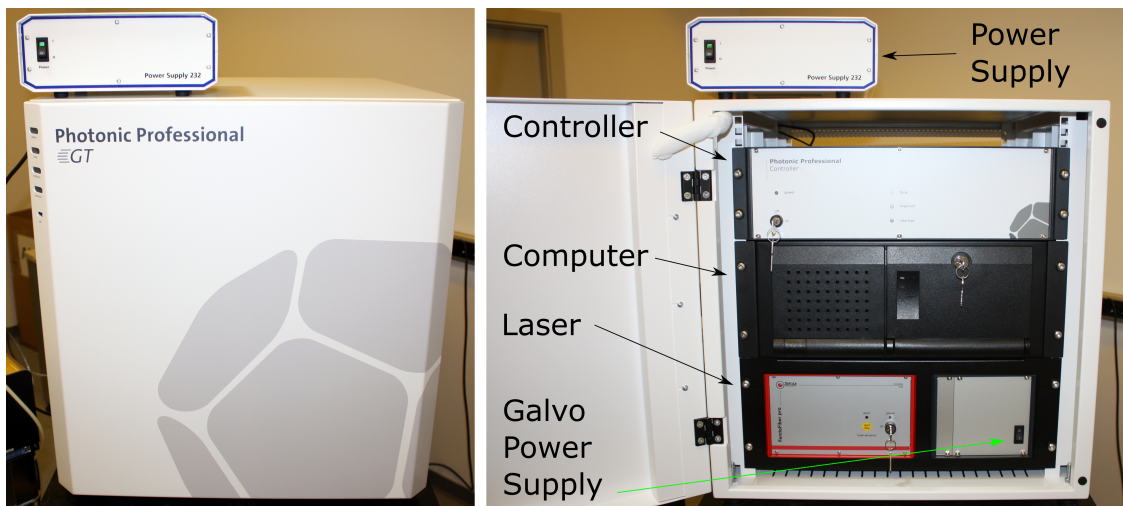

Figure 2.10.: Closed (left) and open (right) electronic rack of the Photonic Professional (GT).
Switch on the components in the following order in order to power-up the Photonic Professional (GT) (Fig. 2.10):
1. Photonic Professional (GT) Controller by activating the key switch.
To power-down the Photonic Professional (GT), follow this order (Fig. 2.10):
9. Switch off the Photonic Professional (GT) Controller by deactivating the key switch.